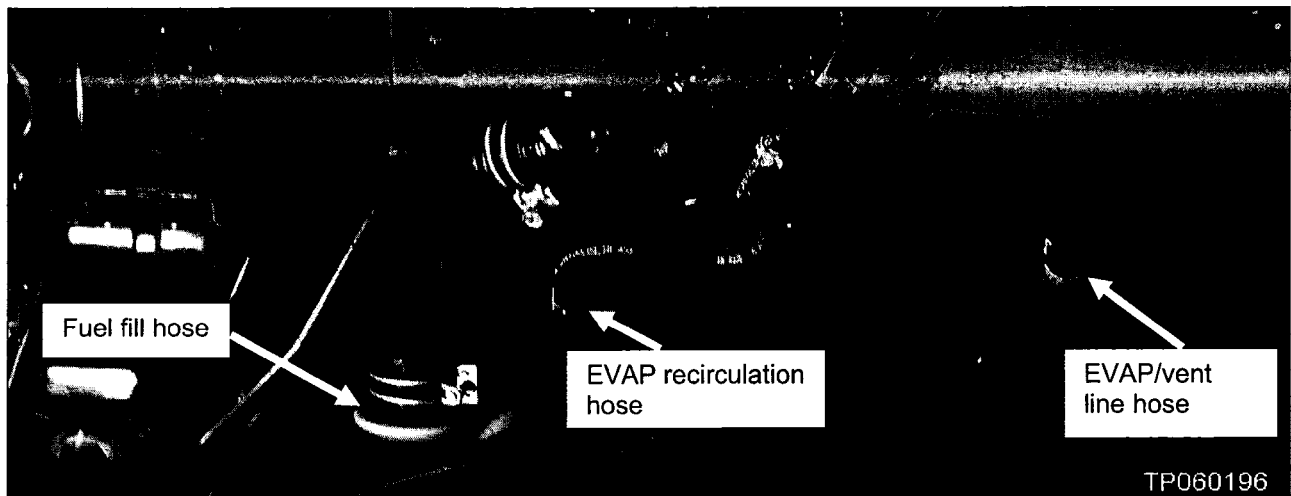

Figure 32
25. Disconnect the three fuel lines / hoses shown in Figure 32 from the fuel tank.
- Disconnect them at the points shown in Figure 32.